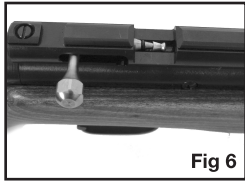

Fig 6
- With the bolt in the rearward position, place one pellet, nose first, into the loading port (breech) (see fig. 6). This is a single shot pellet airgun. Load no more than one pellet at a time.